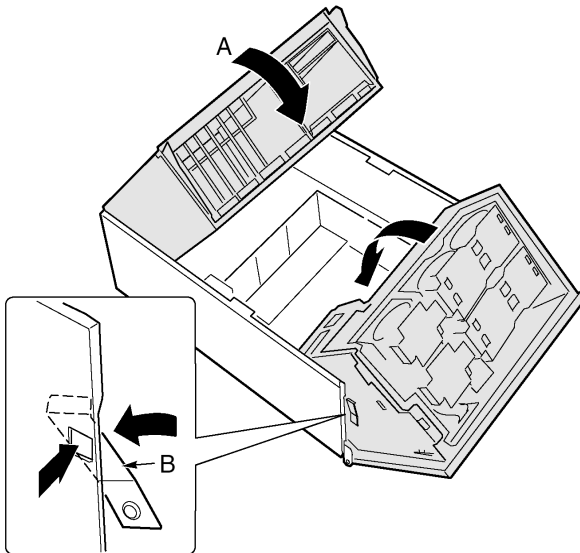

Figure 16 - Closing the front subchassis and rear electronics bay
- b Depress and hold the spring clip (Figure 16, B) and swing the front subchassis all the way into the main chassis.